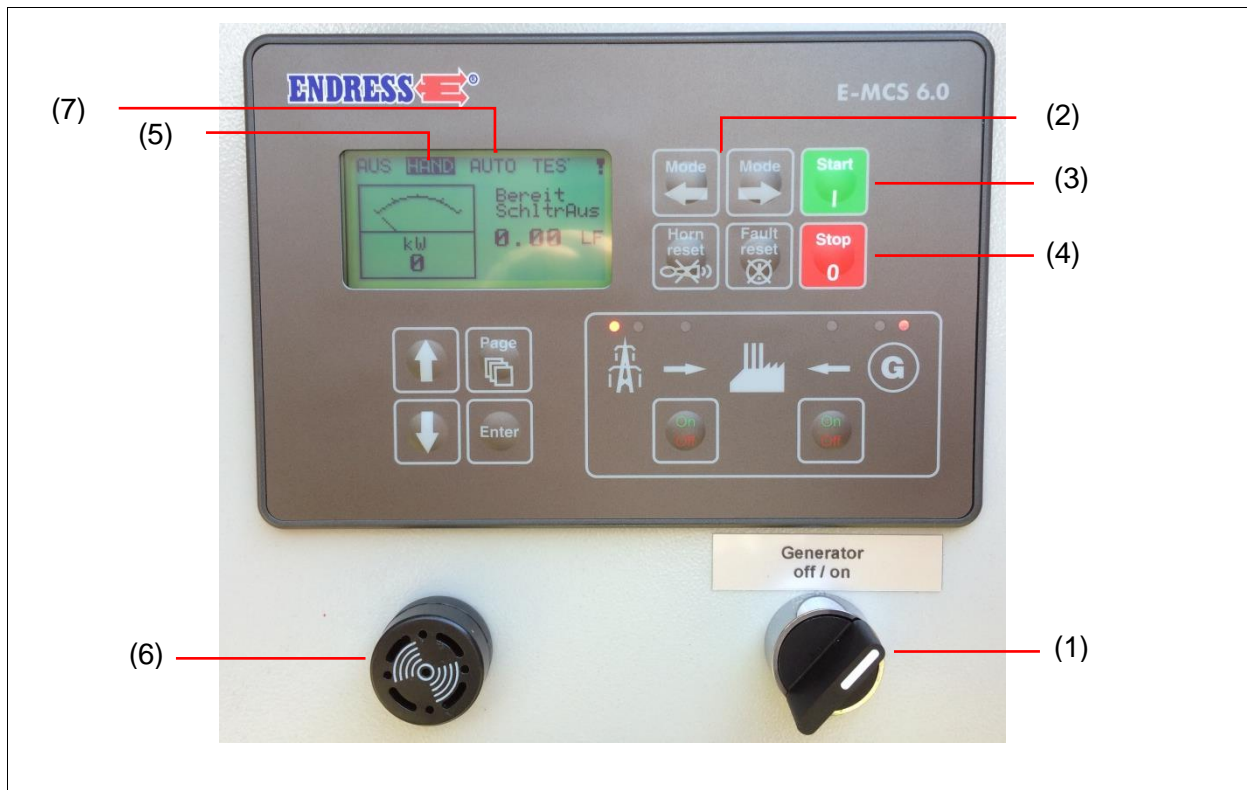

Figure 8-1: Starting the generator manually
1. Move the selection switch (Figure 8-1-(1)) into position.
2. Press the START button Figure 8-1: Starting the generator manually. The engine is started after a pre-heating phase
Requirements The control module E-MCS 6.0 is in "AUTO" mode.(Figure 8-1: Starting the generator manually)
The generator can be run as as network failure automat in combination with a remote start socket (**Fig. 10-1 Remote start socket**) and the optional accessory changeover contactors E-US 32 -90. The control module E-MCS 6.0 is in "AUTO" mode.(Figure 8-1: Starting the generator manually)